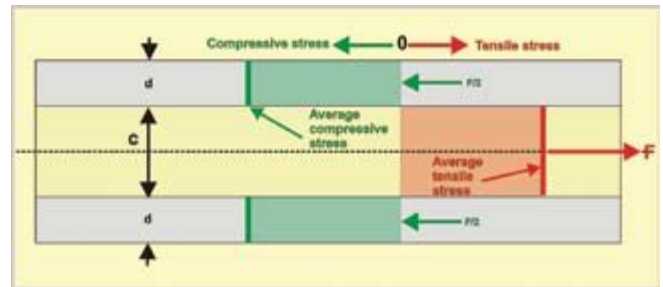

Fig.6. High core tensile residual stress in a deep-peened leaf spring.
Imagine next that a leaf spring had been peened with such a high intensity that the depth of the compressed surface layer, **d**, was half of **c**. The ratio of stresses predicted by equation (1) is now **1** ($2 * \frac{1}{2} / 1$). In other words the average compressive residual stress in the surface layer is equal to the average tensile residual stress in the core. Fig.6 shows the corresponding effect on distribution of average residual stresses.